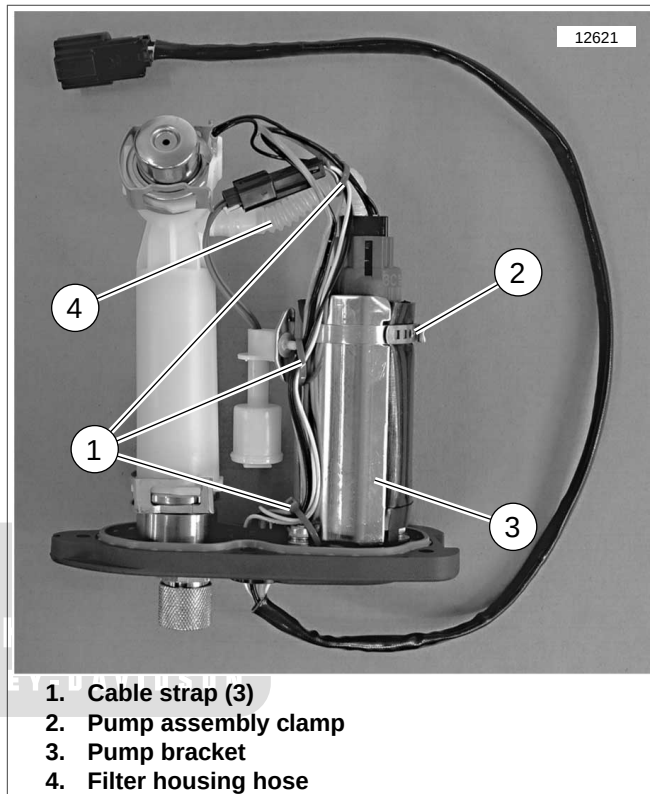
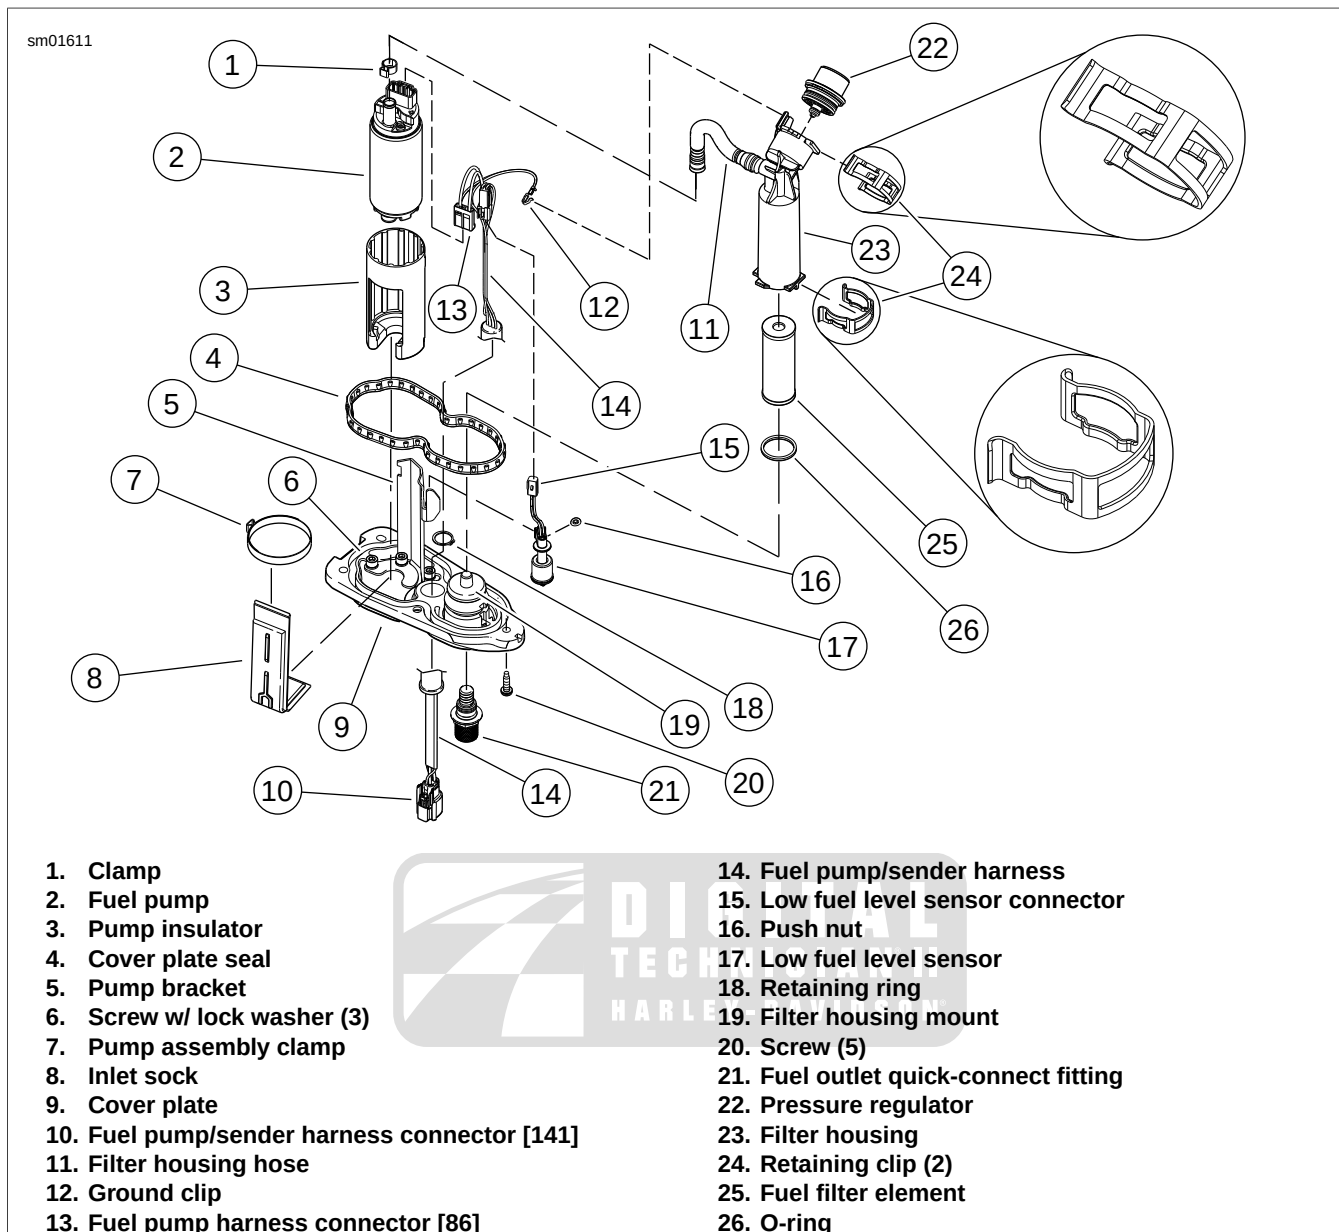

Figure 4-81. Fuel Pump Assembly: Location of Cable Straps and Pump Clamp
Figure 4-82. Fuel Pump and Sender Assembly
See Figure 4-81. When disassembling or assembling the fuel pump and sender assembly, refer to this figure for the relative positions of the wiring harness cable straps (1) and pump assembly clamp (2).
1. See Figure 4-81. Cut and discard cable strap (1) securing wiring harness to the filter housing hose (4).
2. See Figure 4-82. Remove ground clip (12) from top of filter housing (23).
3. Remove and discard clamp (1). Remove filter housing hose from top of fuel pump (2).
4. Remove retaining clip (24) from top of filter housing and remove pressure regulator (22).
5. Remove second retaining clip (24) from bottom of filter housing and remove filter housing. Remove fuel filter element (25) from housing.
6. Remove o-ring (26) from filter housing mount (19).
1. See Figure 4-81. Make note of the location of any cable straps securing wiring harness to the fuel pump bracket (3). Cut and discard cable straps.
2. See Figure 4-82. Unplug fuel pump harness connector [86] (13).
3. Unplug low fuel level sensor connector from fuel pump/sender harness (14).
4. Remove and discard clamp (1). Remove filter housing hose (11) from top of fuel pump (2).
5. Remove and discard pump assembly clamp (7). Remove pump assembly with pump insulator (3) from pump bracket (5).
6. Remove push nut (16) and low fuel level sensor assembly (17) from pump bracket.
7. Remove three screws w/lock washers (6) and remove pump bracket from cover plate (9).
1. See Figure 4-81. Make note of the location of cable strap (1) securing low fuel level sensor connector to filter housing hose (4). Cut and discard cable strap.
2. See Figure 4-82. Unplug low fuel level sensor connector (15) from fuel pump/sender harness (14).
3. Remove push nut (16) and low fuel level sensor assembly (17) from pump bracket (5).
1. See Figure 4-81. Make note of the location of cable straps (1) securing fuel pump/sender harness to fuel pump bracket (3) and filter housing hose (4). Cut and discard cable straps.
2. See Figure 4-82. Unplug low fuel level sensor connector (15) from fuel pump/sender harness (14). Unplug fuel pump harness connector [86] (13) from fuel pump.
3. Remove screw w/lock washer (6) securing fuel pump/sender harness grounding eyelet to pump bracket (5).
4. Remove retaining ring (18). Remove fuel pump/sender harness from cover plate (9).
1. See Figure 4-82. Install fuel pump/sender harness (14) into cover plate (9). Secure with retaining ring (18).
2. Secure fuel pump/sender harness grounding eyelet to pump bracket (5) using screw w/lock washer (6). Tighten to 19-36 **in-lbs** (2.1-4.1 Nm).
3. Plug low fuel level sensor connector (15) into fuel pump/sender harness. Plug fuel pump harness connector [86] (13) into fuel pump (2).
4. See Figure 4-81. Secure wiring harness to fuel pump bracket (3) and filter housing hose (4) with cable straps (1).
1. See Figure 4-82. Install low fuel level sensor assembly (17) onto pump bracket (5). Secure with push nut (16).
2. Plug low fuel level sensor connector (15) into fuel pump/sender harness (14).
3. See Figure 4-81. Secure low fuel level sensor connector and fuel pump/sender harness to filter housing hose (4) with cable strap (1).
1. See Figure 4-82. Install pump bracket (5) onto cover plate (9). Secure with three screws w/lock washers (6). Tighten to 19-36 **in-lbs** (2.1-4.1 Nm).
2. Install low fuel level sensor assembly (17) onto pump bracket. Secure with push nut (16).